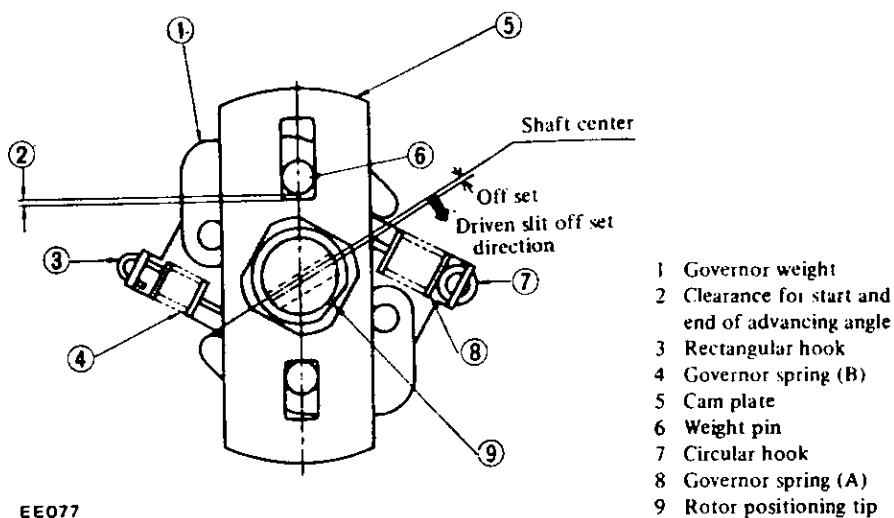

Fig. 101 Setting Governor's Spring and Cam
Assembly can be made in reverse sequence of disassembly. Refer to Figure 101 for replacement and reassembly of governor spring and cam.
With unit assembled, check to be sure that driven slit and rotor position tip (9) are set in the same direction. See Figure 101.